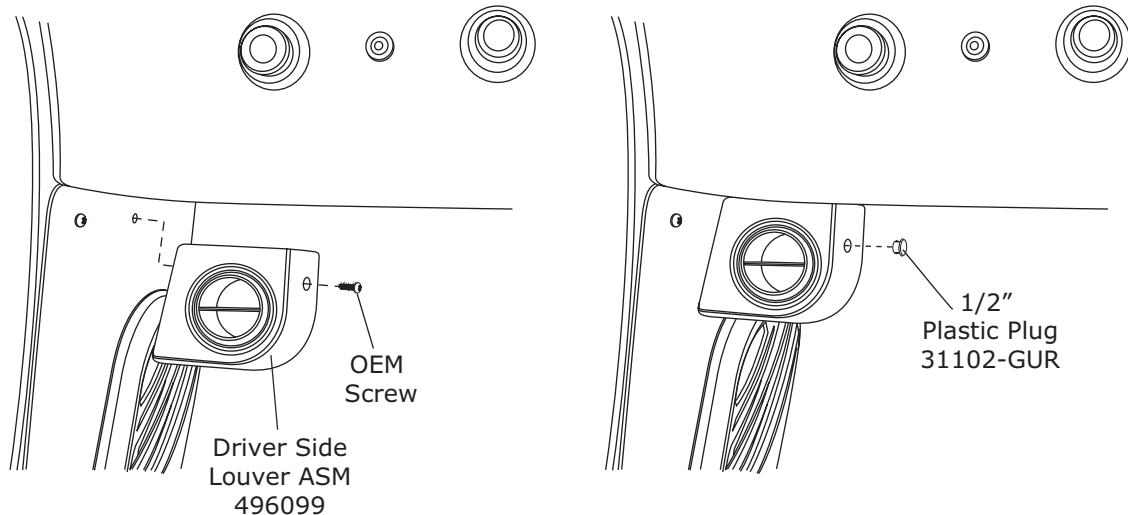

Figure 15
1. Install driver side louver assembly under dash and secure using OEM screw as shown in Figure 15, below.
2. Install 1/2" plastic plug in driver side louver assembly as shown in Figure 15, below.